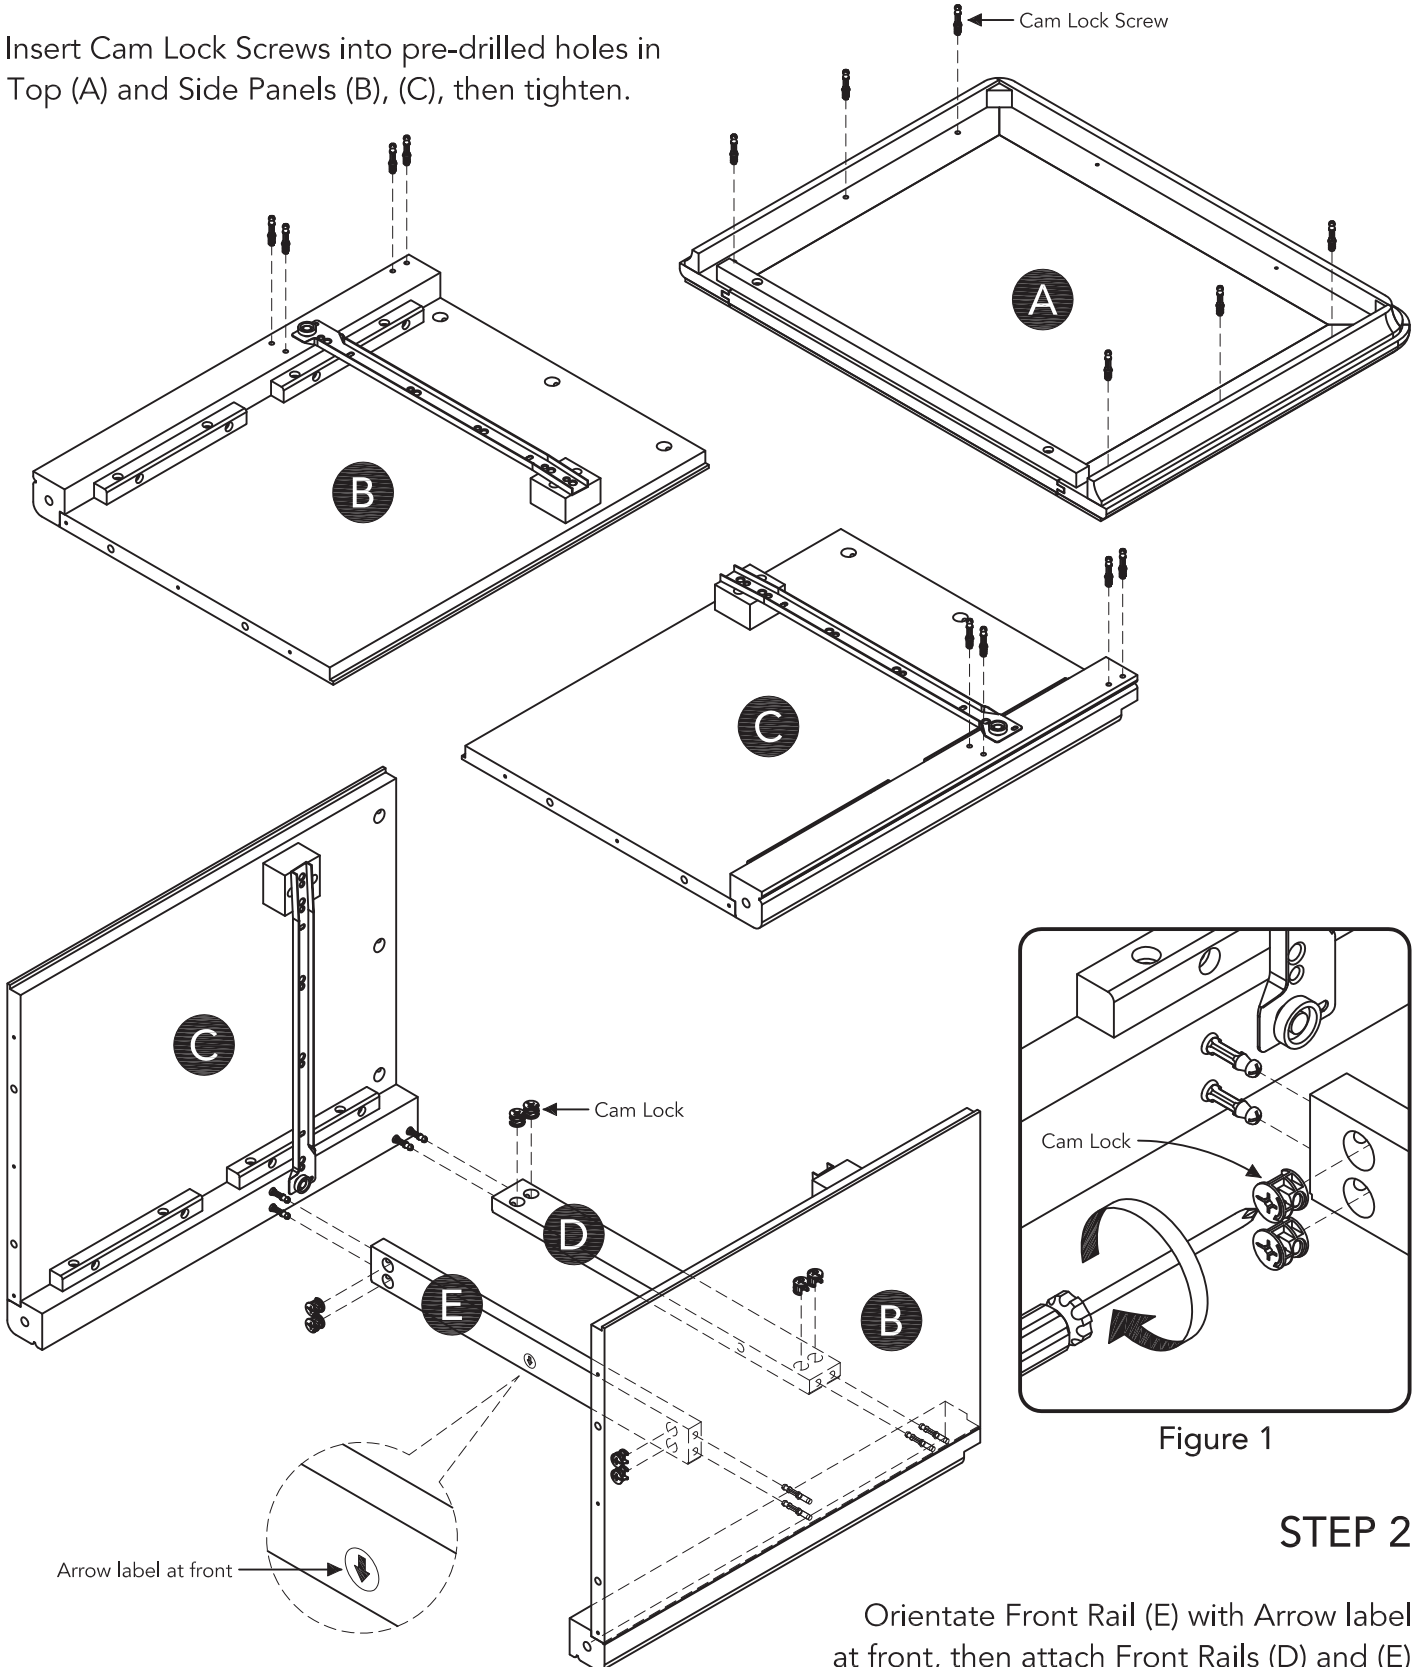

Figure 1
Orientate Front Rail (E) with Arrow label at front, then attach Front Rails (D) and (E) to Side Panels (B) and (C) with Cam Locks. (See Figure 1)